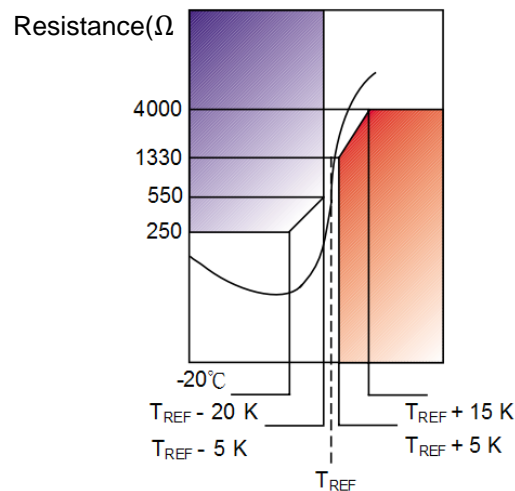

Figure 5.2.28 Relationship between PTC temperature and resistance
PTC100 and PTC120(130) are thermistors. Their output resistance changes according to coil temperature. Resistance of PTC100 rises drastically when $T_{REF}=100^{\circ}\text{C}$, while resistance of PTC120(130) rises drastically when $T_{REF}=120(130)^{\circ}\text{C}$. Their features are given in Table 5.2.8 and Figure 5.2.28.
To protect the motor windings against thermal damage, every motor is equipped with a triple positive temperature coefficient (PTC) sensor, type SNM120/130 (in accordance with DIN 44082-M180). Since the degree of heating of the individual motor phases can be very different, a PTC sensor is fitted in each phase winding (U, V and W). Each PTC element has a “Quasi-switching” characteristic, i.e. the resistance suddenly increases close to the rated temperature (switching threshold, Figure 5.2.28). Due to its low heat capacity and good thermal contact with the motor winding, the PTC reacts very quickly to a rise in temperature and, in conjunction with additional protective mechanisms on the control side, ensures reliable motor protection against overload. The PTC elements located in every phase winding in HIWIN motors are wired in series; they connect via two wires. With TMRW/TM-5/IM-2 there is an additional temperature circuit with positive temperature coefficient (PTC), type PTC 100, for redundant use or to distinguish between warning and danger temperatures.